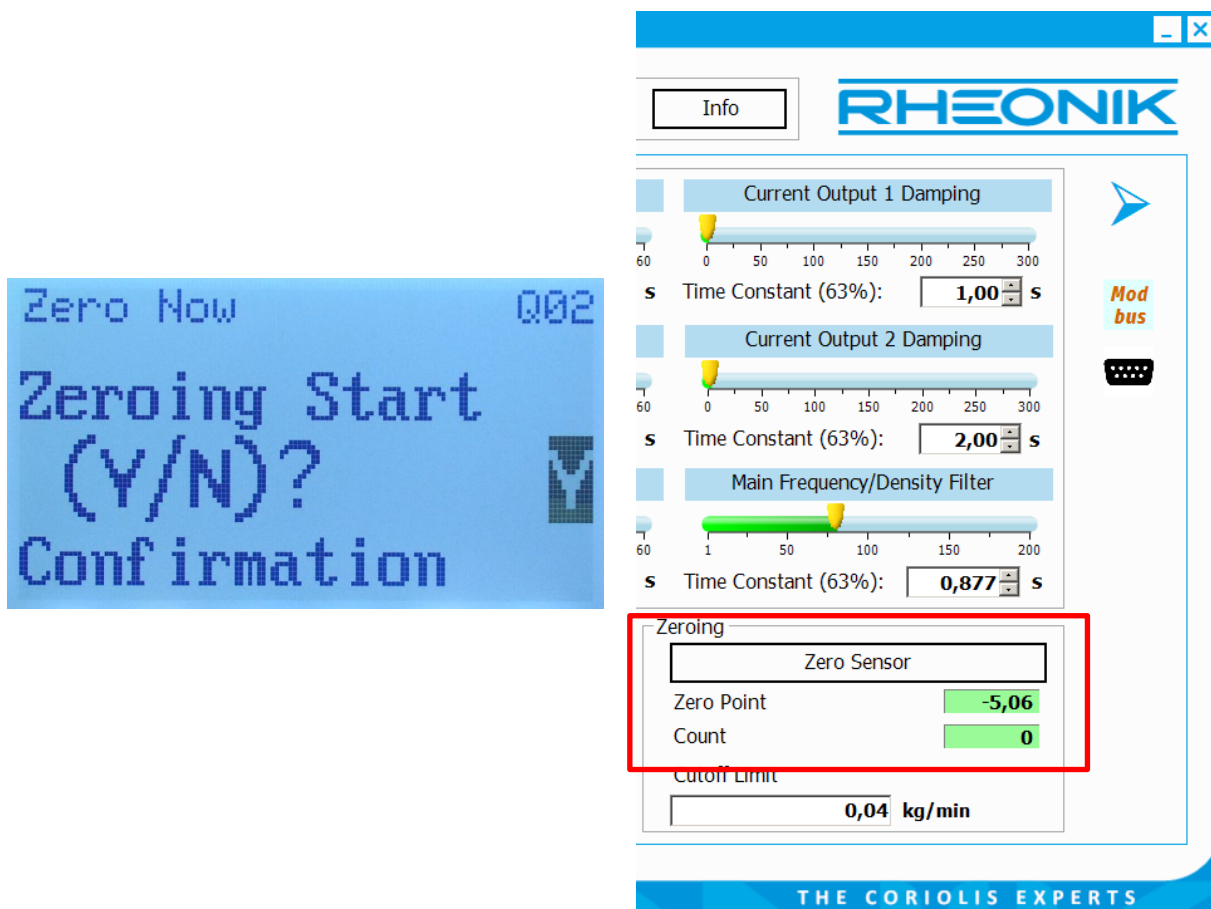

Figure 1: Zeroing Procedure started manually via HMI or using RHEComPro Dashboard
- 1) Via the “Zero Now” option in the “Quick Setup” menu of the HMI. This requires the input of the user password (when not done beforehand) and a confirmation. Please wait for the displayed countdown to finish before beginning other activities. See section 3.6.2 for further details and the left-hand image in Figure 1.
- 2) Through the RHEComPro software (as described in section 2.1) via the USB port on the front cover of the transmitter. The Filter Dashboard window of the RHEComPro software features a virtual button labeled “Zero Sensor” which starts the Zeroing Procedure when clicked. The Zero sensor button on the Filter Dashboard is shown in the right-hand image of Figure 1.